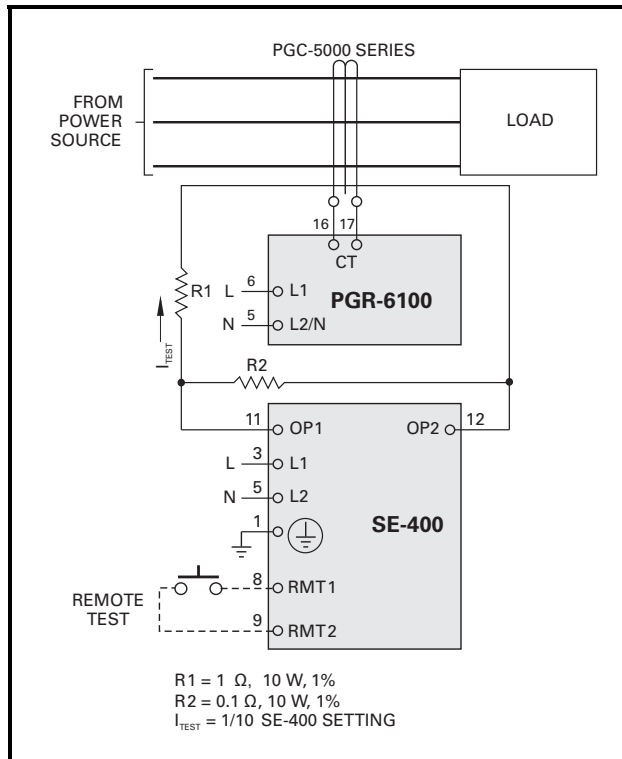

FIGURE 8. Ground-Fault-Test Circuit.
- Verify proper reaction of the circuit-interrupting device in response to a simulated or controlled ground-fault current. To simulate ground-fault current, use CT-primary current injection. Fig. 8 shows a test circuit using the SE-400 Ground-Fault-Relay Test Unit. The SE-400 has a programmable output of 0.5 to 9.9 A for a duration of 0.1 to 9.9 seconds. Fig. 8 shows the use of resistors that reduce the injected current to 10% of the SE-400 setting. Set the test current to 120% of the PGR-6100 setting. Inject the test current through the CT window for at least 2.5 seconds. Verify that the circuit under test has reacted properly. Correct any problems and re-test until the proper reaction is verified.